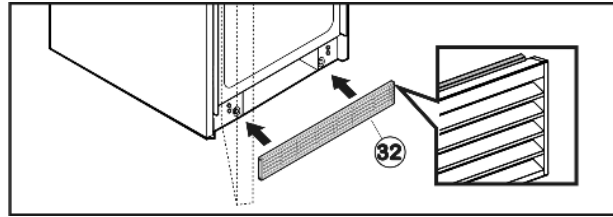

Fig. 53
- ▶ Fit lower ventilation grille Fig. 53 (32) flush with the floor such that the rubber lip is at the top. It is held in place via magnets.